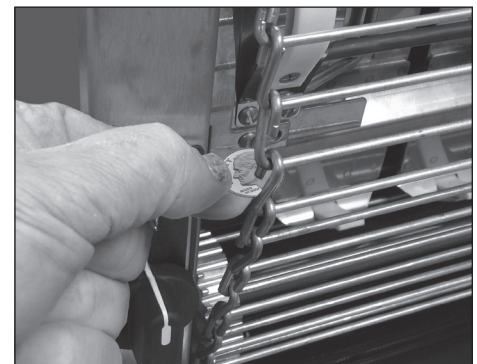

Figure 7. Measuring Conveyor Belt Chain
6. Pull the chain away from the edge of the toaster (Figure 7).
7. Measure the distance from the frame of the unit and the chain. A U.S. Dime (1.8 cm) can be used for the measurement (Figure 7).